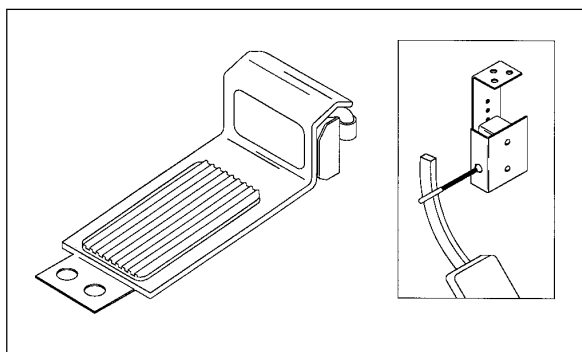

Figure 4-2
1. Mount the clutch switch in a convenient location near the clutch pedal so that the clutch switch actuator arm will be contacted by movement of the clutch pedal. See Figure 4-2.